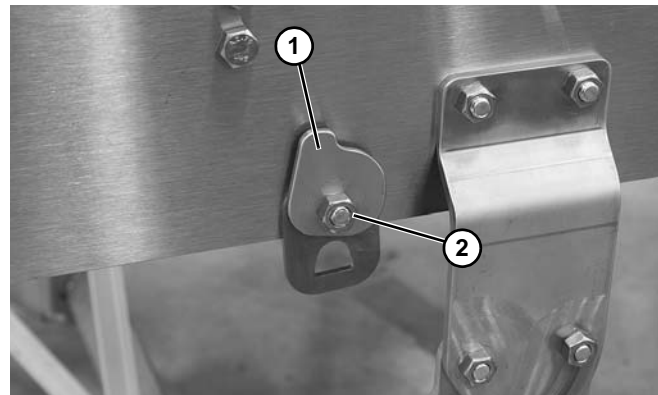

Figure 25
3. Install return clip (**Figure 25, item 1**) and loosely secure with nut (**Figure 25, item 2**).